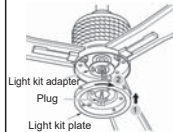

Fig.22
Step 2: Slide the light kit plate up towards the light kit adapter and place the key holes over the screws on the light kit adapter. Turn light kit plate until it locks in place at the narrow section of key holes.(Fig. 22)